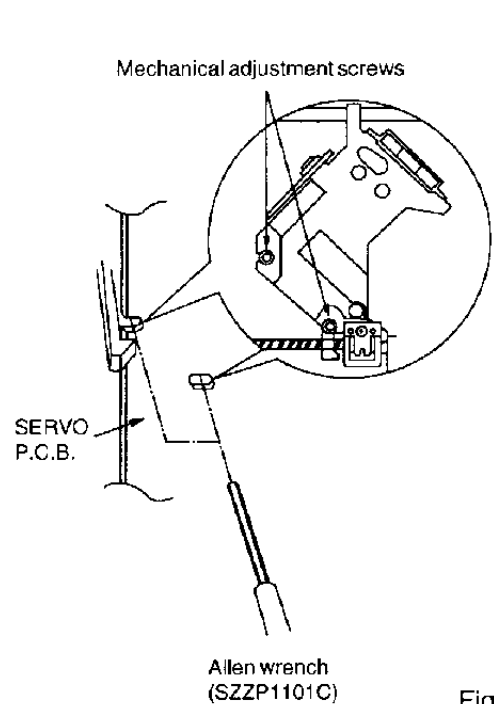

Fig. 6
4. Alternately adjust the HEX screws with the 2.0mm allen wrench (SZZP1101C) until the vertical fluctuation of RF signal is minimized and the eye pattern is most stretched. (Refer to Fig. 6)